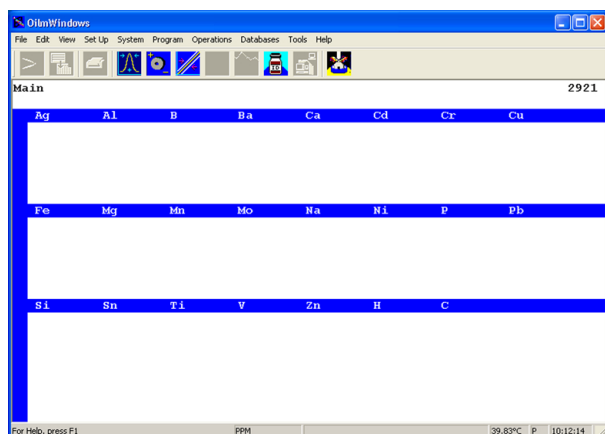

Figure 2-3, Sample Analysis Screen
1. The video monitor should display the Analysis Program screen, Figure 2-3. If a screen saver is in use, the Analysis Program screen will not be displayed. Press any key on the keyboard to terminate the screen saver and re-display the Analysis Program screen.